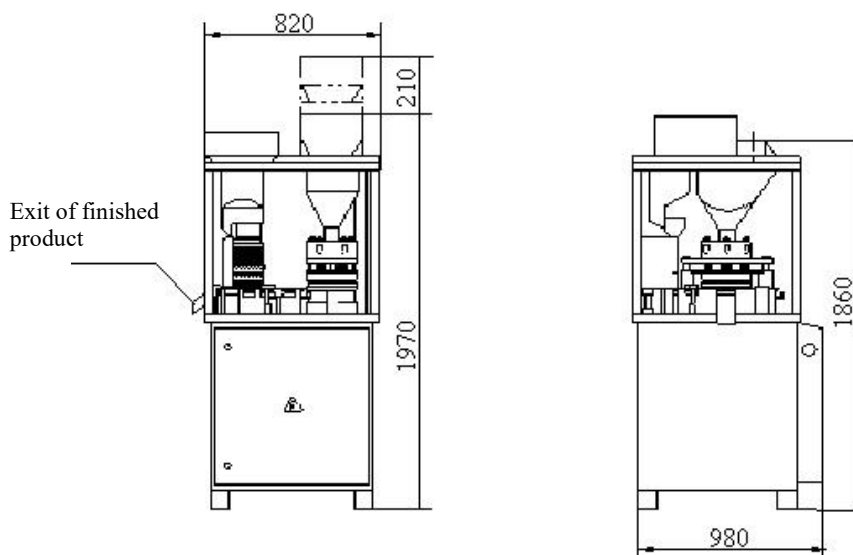

Fig.1 Appearance and Dimensions
2.1 Dimensions: 1020 × 860 × (1970+210) mm (refer to Fig. 1)